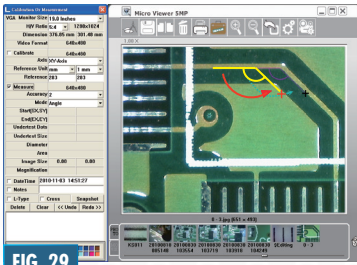

FIG. 29
7. Hold the right button of the mouse and drag to the other side counterclockwise. (Fig. 29)